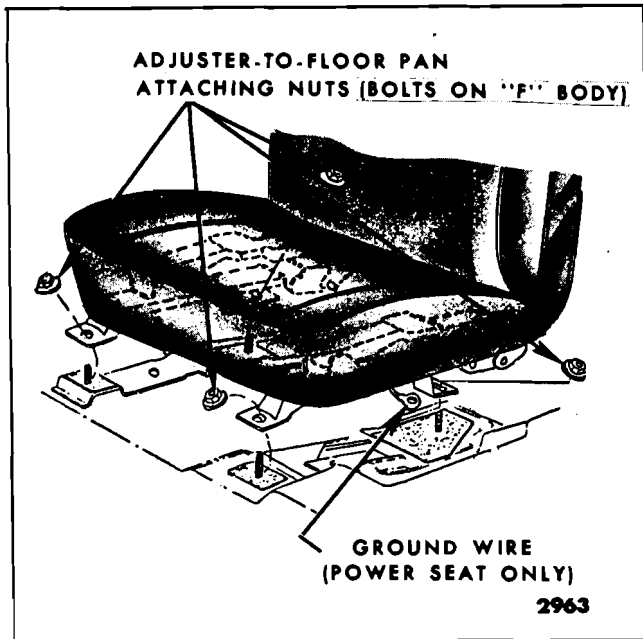

Fig. 15-41—Bucket Seat Floor Pan Attachment - "A, F, X & Z" Styles—Bucket Seat
2. Turn back floor carpeting sufficiently to expose seat adjuster-to-floor pan attaching nuts or bolts (Fig. 15-41 and 15-42).
3. Operate seat to full rearward position. Remove adjuster-to-floor pan front attaching bolts or nuts (Figs. 15-41 and 15-42). Operate seat to full forward position. Remove adjuster-to-floor pan rear attaching bolts or nuts and remove seat assembly from body.
3. Remove seat adjuster-to-floor pan rear attaching bolts (Figs. 15-41 and 15-42).
4. Operate seat to full rearward position. Remove seat adjuster-to-floor pan front attaching bolts (Figs. 15-41 and 15-42). Tilt seat rearward sufficiently to disconnect seat harness feed connector and detach harness from clip on floor pan; then, remove seat assembly from body.